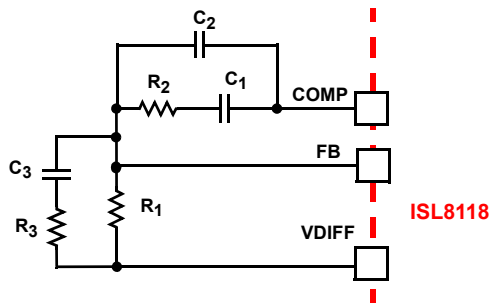
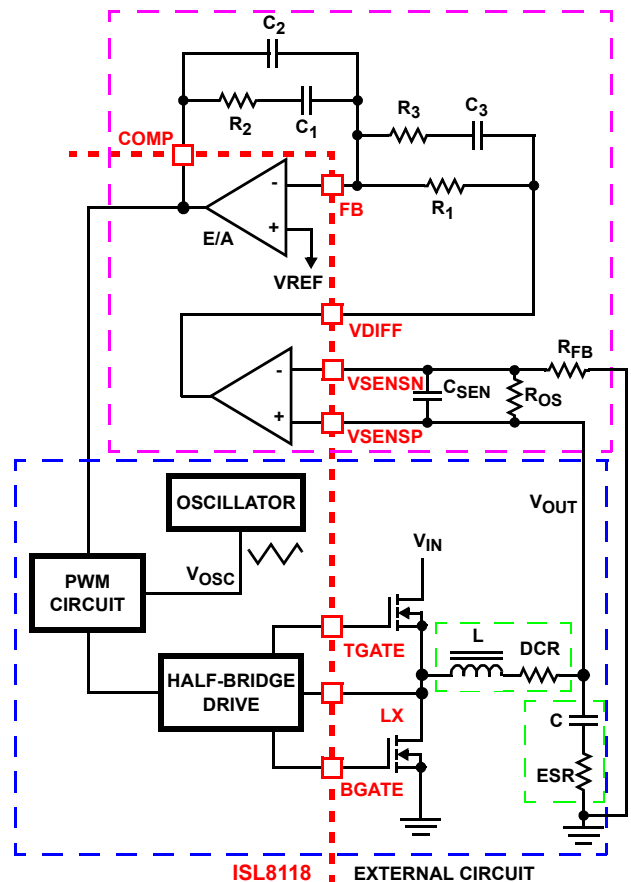

FIGURE 9. COMPENSATION CONFIGURATION FOR ISL8118 WHEN USING DIFFERENTIAL REMOTE SENSE
FIGURE 10. VOLTAGE-MODE BUCK CONVERTER COMPENSATION DESIGN
The ISL8118 single-phase converter is a voltage-mode controller. This section highlights the design considerations for a voltage-mode controller requiring external compensation. To address a broad range of applications, a type-3 feedback network is recommended (see Figure 9).
Figure 10 highlights the voltage-mode control loop for a synchronous-rectified buck converter, when using an internal differential remote sense amplifier. The output voltage (V_{OUT}) is regulated to the reference voltage, V_{REF} , level. The error amplifier output (COMP pin voltage) is compared with the oscillator (OSC) triangle wave to provide a pulse-width modulated wave with an amplitude of V_{IN} at the LX node. The PWM wave is smoothed by the output filter (L and C). The output filter capacitor bank's equivalent series resistance is represented by the series resistor ESR.
The compensation network consists of the error amplifier (internal to the ISL8118) and the external R_1 - R_3 , C_1 - C_3 components. The goal of the compensation network is to provide a closed loop transfer function with high 0dB crossing frequency (F_0 ; typically 0.1 to 0.3 of F_{SW}) and adequate phase margin (better than 45°). Phase margin is the difference between the closed loop phase at F_{0dB} and 180° . The equations that follow relate the compensation network's poles, zeros and gain to the components (R_1 , R_2 , R_3 , C_1 , C_2 , and C_3) in Figures 9 and 10. Use the following guidelines for locating the poles and zeros of the compensation network:
1. Select a value for R_1 (1kΩ to 10kΩ, typically). Calculate value for R_2 for desired converter bandwidth (F_0). If setting the output voltage to be equal to the reference set voltage as shown in Figure 9, the design procedure can be followed as presented. However, when setting the output voltage via a resistor divider placed at the input of the differential amplifier (as shown in Figure 10), in order to compensate for the attenuation introduced by the resistor divider, the below obtained R_2 value needs be multiplied by a factor of $(R_{OS} + R_{FB})/R_{OS}$. The remainder of the calculations remain unchanged, as long as the compensated R_2 value is used.
A small capacitor, C_{SEN} in Figure 10, can be added to filter out noise, typically C_{SEN} is chosen so the corresponding time constant does not reduce the overall phase margin of the design, typically this is 2x to 10x switching frequency of the regulator. As the ISL8118 supports 100% duty cycle, d_{MAX} equals 1. The ISL8118 also uses feed-forward compensation, as such V_{OSC} is equal to 0.16 multiplied by the voltage at the VFF pin.